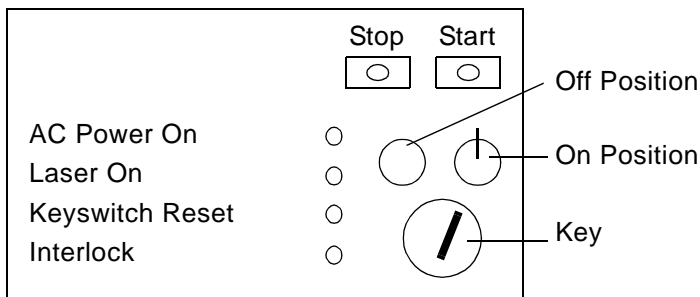

Figure 2-28 Left Side of External Laser Cabinet
2. On the left side of the external laser cabinet (Figure 2-28), turn the key (located next to the Keyswitch Reset LED) from the On position (right) to the Off position (left), then to the On position (right).